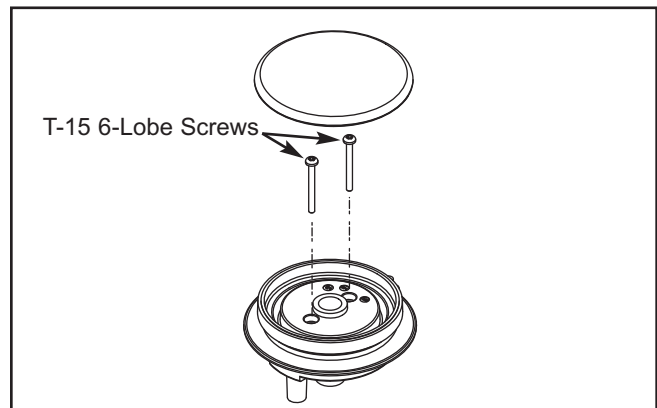

Figure 1. Burner Removal
1. Remove the two T-15, 6-Lobe screws from the 15,000 Btu/hr burner. (See Figure 1)